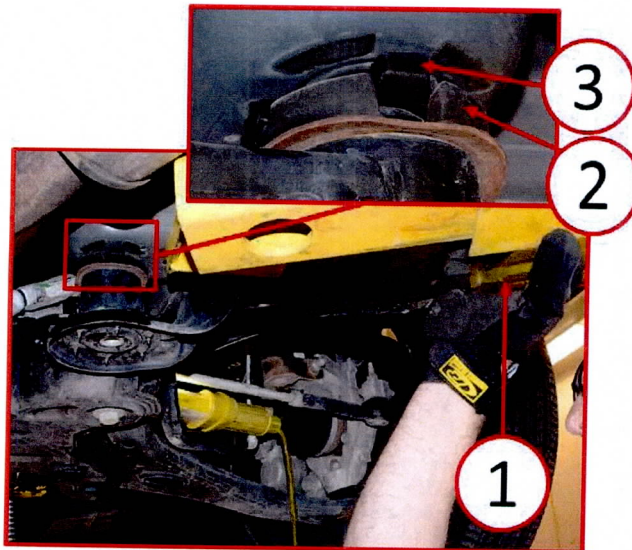
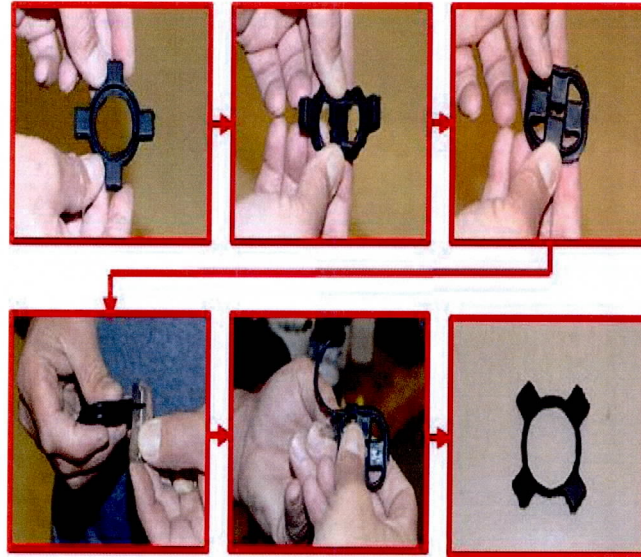

Fig. 3 Snubber Installation
Fig. 4 Trim Snubber
9. With the rear mounting bolt for the lower control arm still removed, position a pry bar between the crossmember and the body to lower the upper crossmember mount for snubber installation(**Fig. 3**). Prior to installing the snubbers, fold them inside out and trim the excess inner rib with a razor blade as shown in (**Fig. 4**). Return the snubbers to their original state and insert between the vehicle body and the left and right upper crossmember mount.